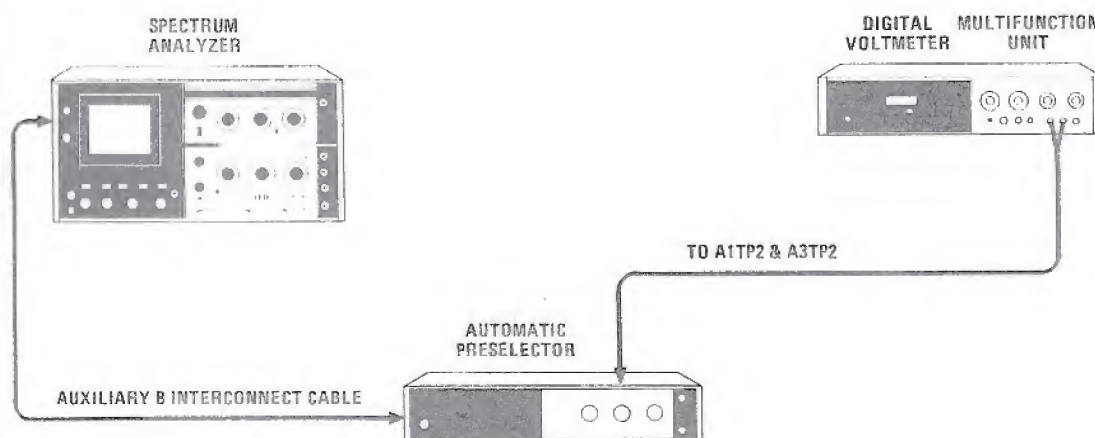

Figure 5-2. Pre-driver Adjustment Test Setup
1. Connect test setup as shown in Figure 5-2.